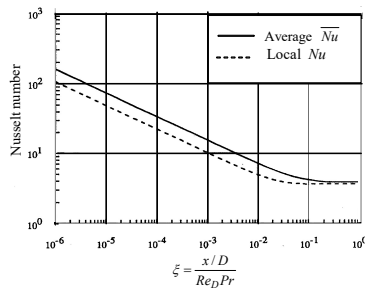

Fig. 6.9 Local and average Nusselt number for tube at uniform surface temperature [4]
- (6.67) and (6.68) are plotted in Fig. 6.9 as  $Nu(\xi)$  and  $\overline{Nu}(\xi)$